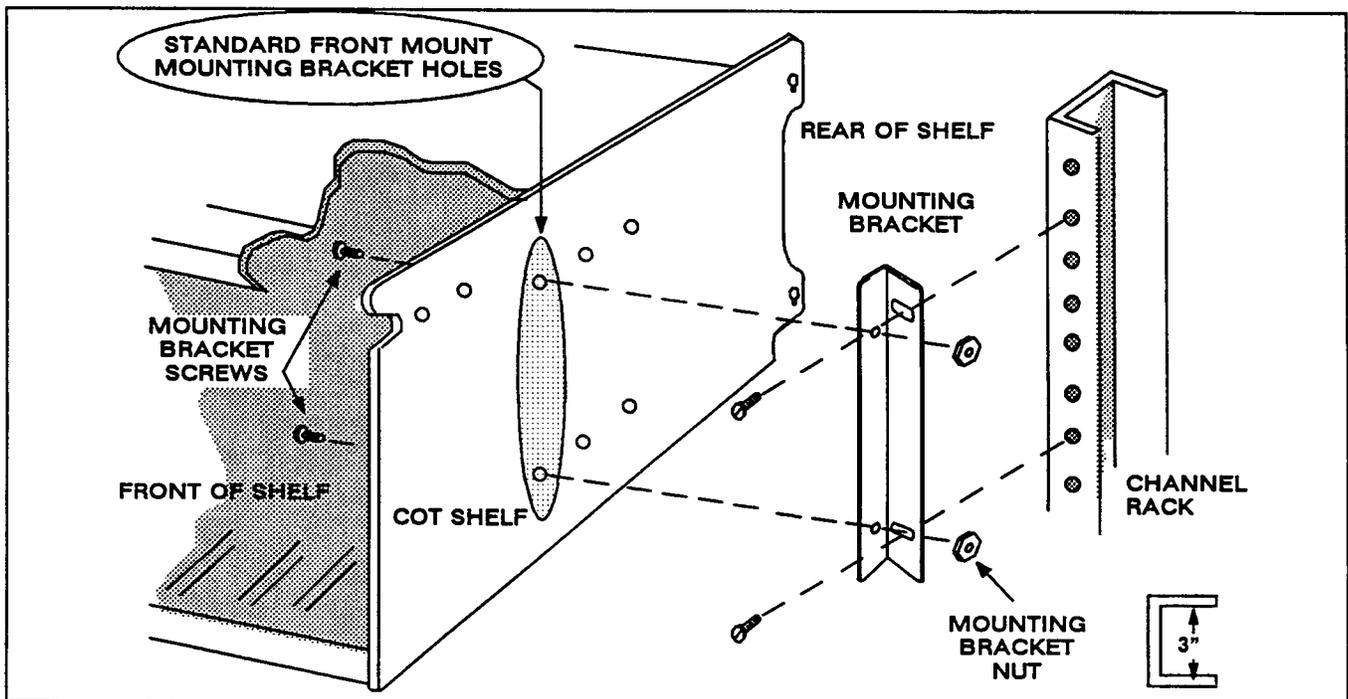

Figure 3. Shelf Mounting Bracket Position for Standard Front Mount
- Position one of the mounting brackets at the first set of holes (Figure 3). The flange of the bracket is toward the rear of the shelf.